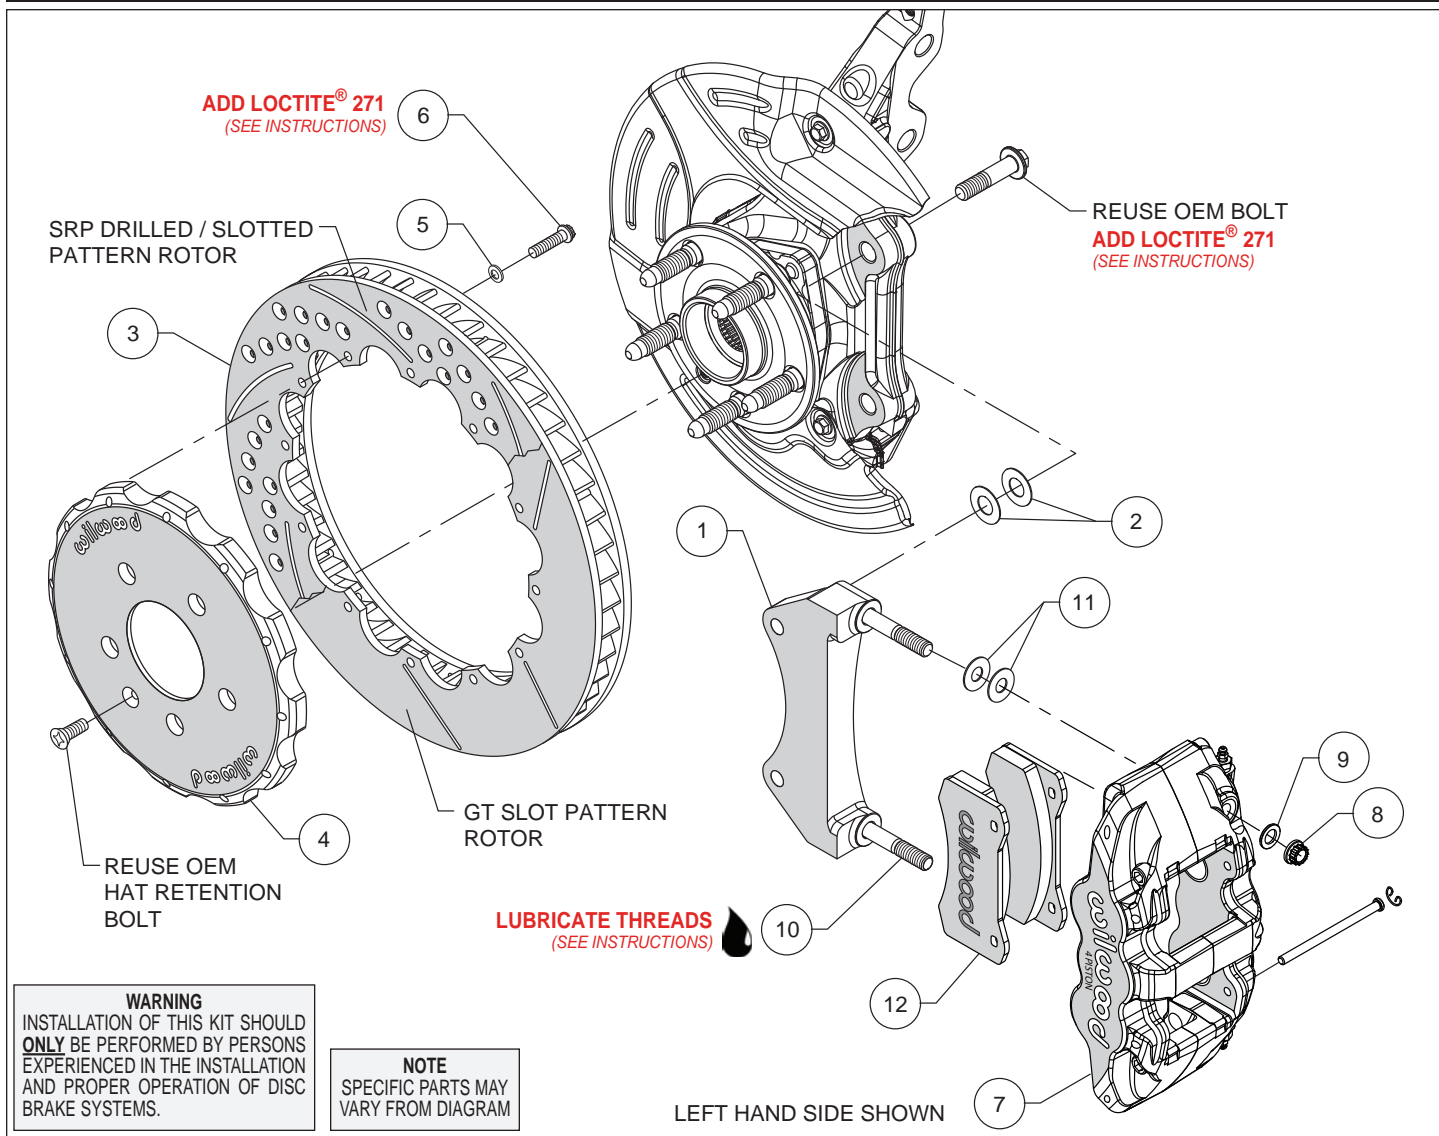
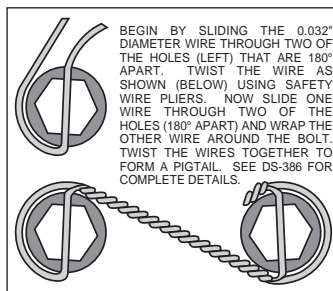

Figure 1. Typical Installation Configuration
Figure 3. Safety Wire Diagram
Assembly Instructions (numbers in parenthesis refer to the parts list and Figure 1 on the preceding pages):
- The caliper mount bracket (1) should initially be installed with clean, dry threads on the mounting bolts. Orient the bracket as shown in Figure 1 and install using the saved OEM caliper mount bolts. Initially place two .029" thick shims (2) on each bolt between the bracket and upright, Figure 1 and Photo 1. Temporarily tighten the mounting bolts. **NOTE:** *The bracket must fit squarely against the mount bosses on the upright.* Inspect for interference from casting irregularities, machining ridges, burrs, etc. Later, after the caliper alignment has been checked, the mount bolts will be secured using red *Loctite*® 271.
- Orient the rotor (3) and the hat (4) as shown in Figure 1 and Photo 2. Attach rotor to hat using bolts (6) and washers (5). Using an alternating sequence, apply red *Loctite*® 271 to the threads and torque bolts to 155 in-lb. For an added measure of security, the bolts may be safety wired using standard 0.032 inch diameter stainless steel safety wire as shown in Figure 3. Please refer to Wilwood's data sheet DS-386 (available at www.wilwood.com/Pdf/DataSheets/ds386.pdf) for complete safety wire installation instructions.
- Slide the hat/rotor assembly onto the axle hub taking care to align the small countersunk hole in the hat (4) with the small threaded hole in the axle hub, Figure 1. **NOTE:** *The hat must fit flush against the axle hub flange or excessive rotor run out may result.* Install three lug nuts (finger tight) to keep the hat/rotor assembly in place while continuing with the installation.
- NOTE:** *This kit contains distinct right and left hand calipers that must be mounted in a specific direction, as described below.* Lubricate the caliper mounting studs (10) with lightweight oil. Initially place two .030" thick shims (11) on each stud between the caliper and the bracket, as shown in Figure 1 and Photo 3. Mount the caliper (7) onto the bracket (1) using lock nuts (8) and washers (9), Figure 1. Temporarily tighten the lock nuts. Ensure that the caliper is mounted so the largest pistons are at the rotor exit end of the caliper, in relation to the direction of the rotor. View the rotor through the top opening of the caliper. The rotor should be centered in the caliper, Photo 4. If not, adjust by adding or subtracting shims (2) between the bracket and the upright. Always use the same amount of shims on each of the two mounting bolts. Once the caliper alignment is correct, remove the bracket mounting bolts one at a time, apply red *Loctite*® 271 to the threads, and torque to 65 ft-lbs.
- Remove the two pad retaining pins from the caliper (7) by carefully popping out the pin retaining clips and sliding out the pins. Insert the brake pads (12) into the caliper from the bottom, Figure 1 and Photo 5. With the friction material facing the rotor, secure the brake pads in place with the pad retaining pins and clips, Photo 6. Reinstall the caliper onto the caliper mounting bracket and temporarily tighten the lock nuts. Check that the top of the brake pad is flush with the outside diameter of the rotor, Photo 7. If not, adjust by adding or subtracting shims (11) between the caliper and the bracket. After the caliper pad height is set, torque the caliper lock nuts (12) to 47 ft-lb.